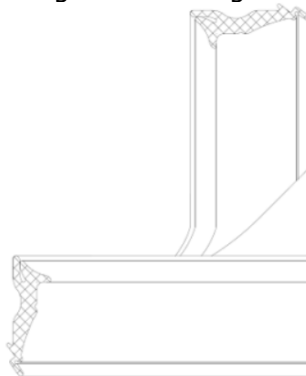

Figure 14 Inner glazing seal installation
8. Glue inner glazing seals onto the glazing beads. Cut the ends of the vertical glass seals at 45 degrees, leaving the seals slightly longer than the glazing beads (Figure 14).
Products with large dimensions are produced by using connecting profiles. Different parts of the frame are assembled at the construction site using self-tapping screws (Figure 14).